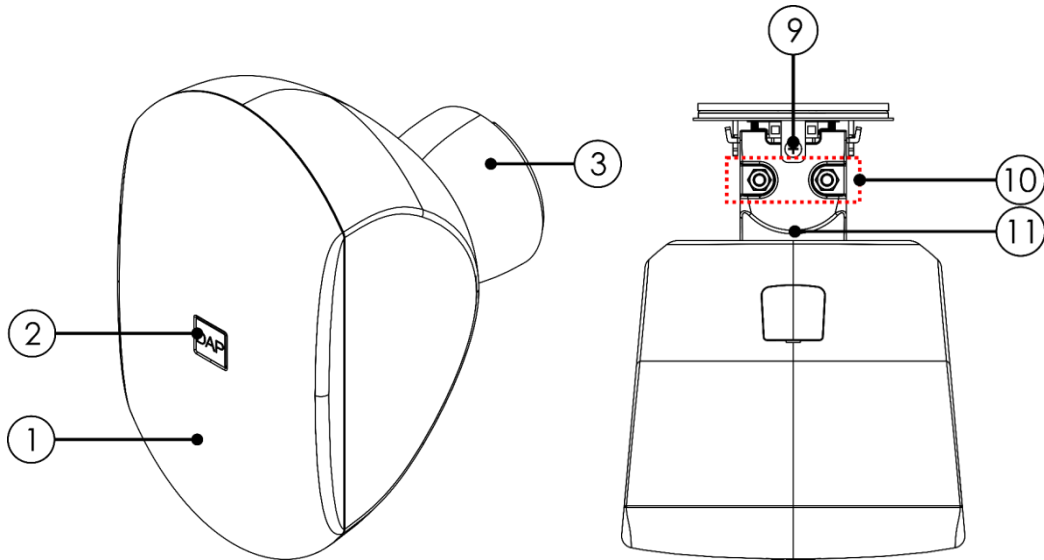

Fig. 19
- 01) Fold the **rubber ball-joint cover (03)** to get access to the **adjustment screws (10)**.
- 02) Loosen the **adjustment screws (10)** with the hex key (Fig. 19).